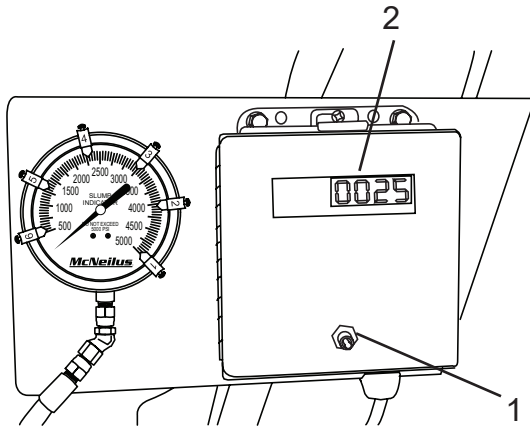

Figure 113
1. Before discharging, press the reset switch (Figure 113, Item 1) to reset the counter display (Figure 113, Item 2).